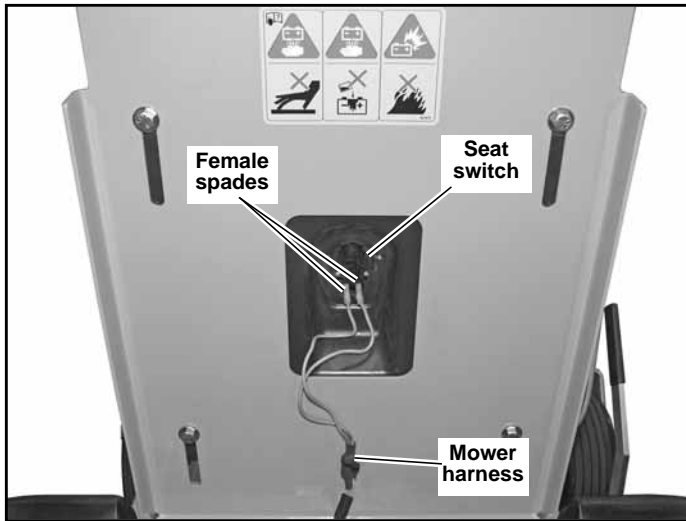

Figure 4-7
4. Raise the seat platform and disconnect the mower harness from the seat switch. Bypass the seat switch by connecting the two mower harness female spades together.. Figure 4-7
10. **IMPORTANT:** With the engine off, disconnect the two female spade connectors from each other (from step #4) and reconnect them to the seat switch. This must be completed so that the safety circuit is functioning properly. Figure 4-7